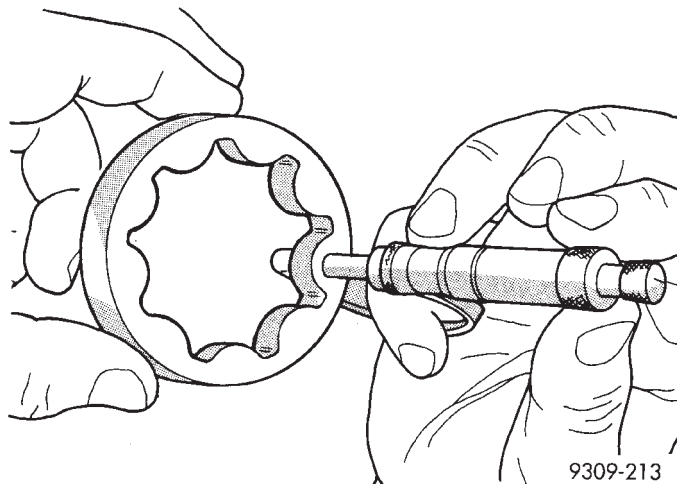

Fig. 94 Measuring Outer Rotor Thickness
(3) Measure thickness and diameter of outer rotor. If outer rotor thickness measures 9.40 mm (0.370 inch.) or less (Fig. 94), or if the diameter is 79.95 mm (3.148 inches.) or less, replace outer rotor.